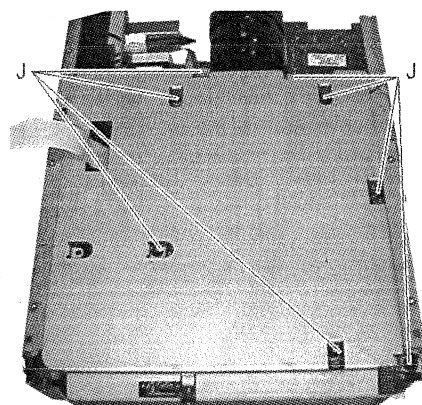

Fig. 4.9
4.5 Removing the metal shield (fig. 4.9 and 4.10)